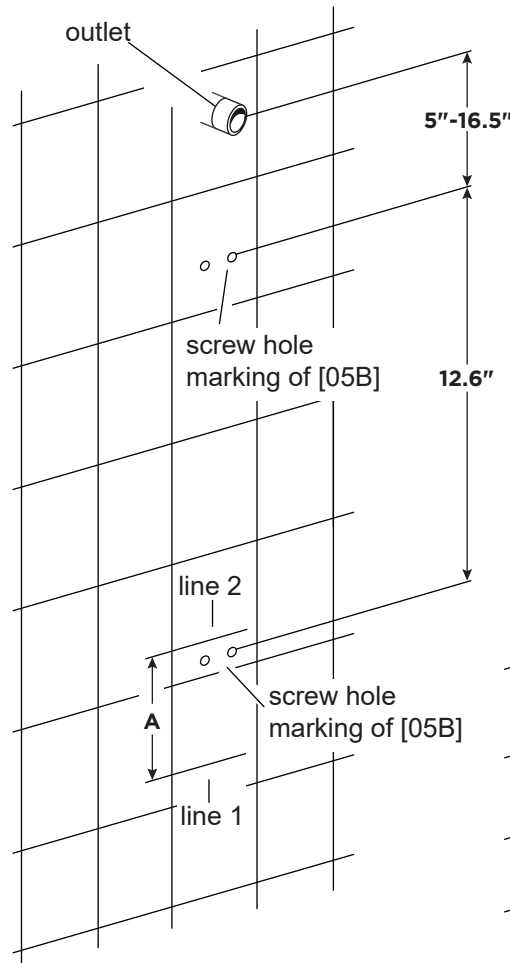

Fig 1.2
- 1-2** Measure the distance A between the bottom of the shower panel and the lower back bracket. Then draw line 2 above the line 1 at the distance A. (Fig 1.2)
- 1-4** Position another **Bracket [05B]** above the previous one on the wall where the distance between screw holes of it to the marked place is 12.6" and center with the outlet. Then mark the wall through the screw holes of the **Bracket [05B]**. (Fig 1.2)